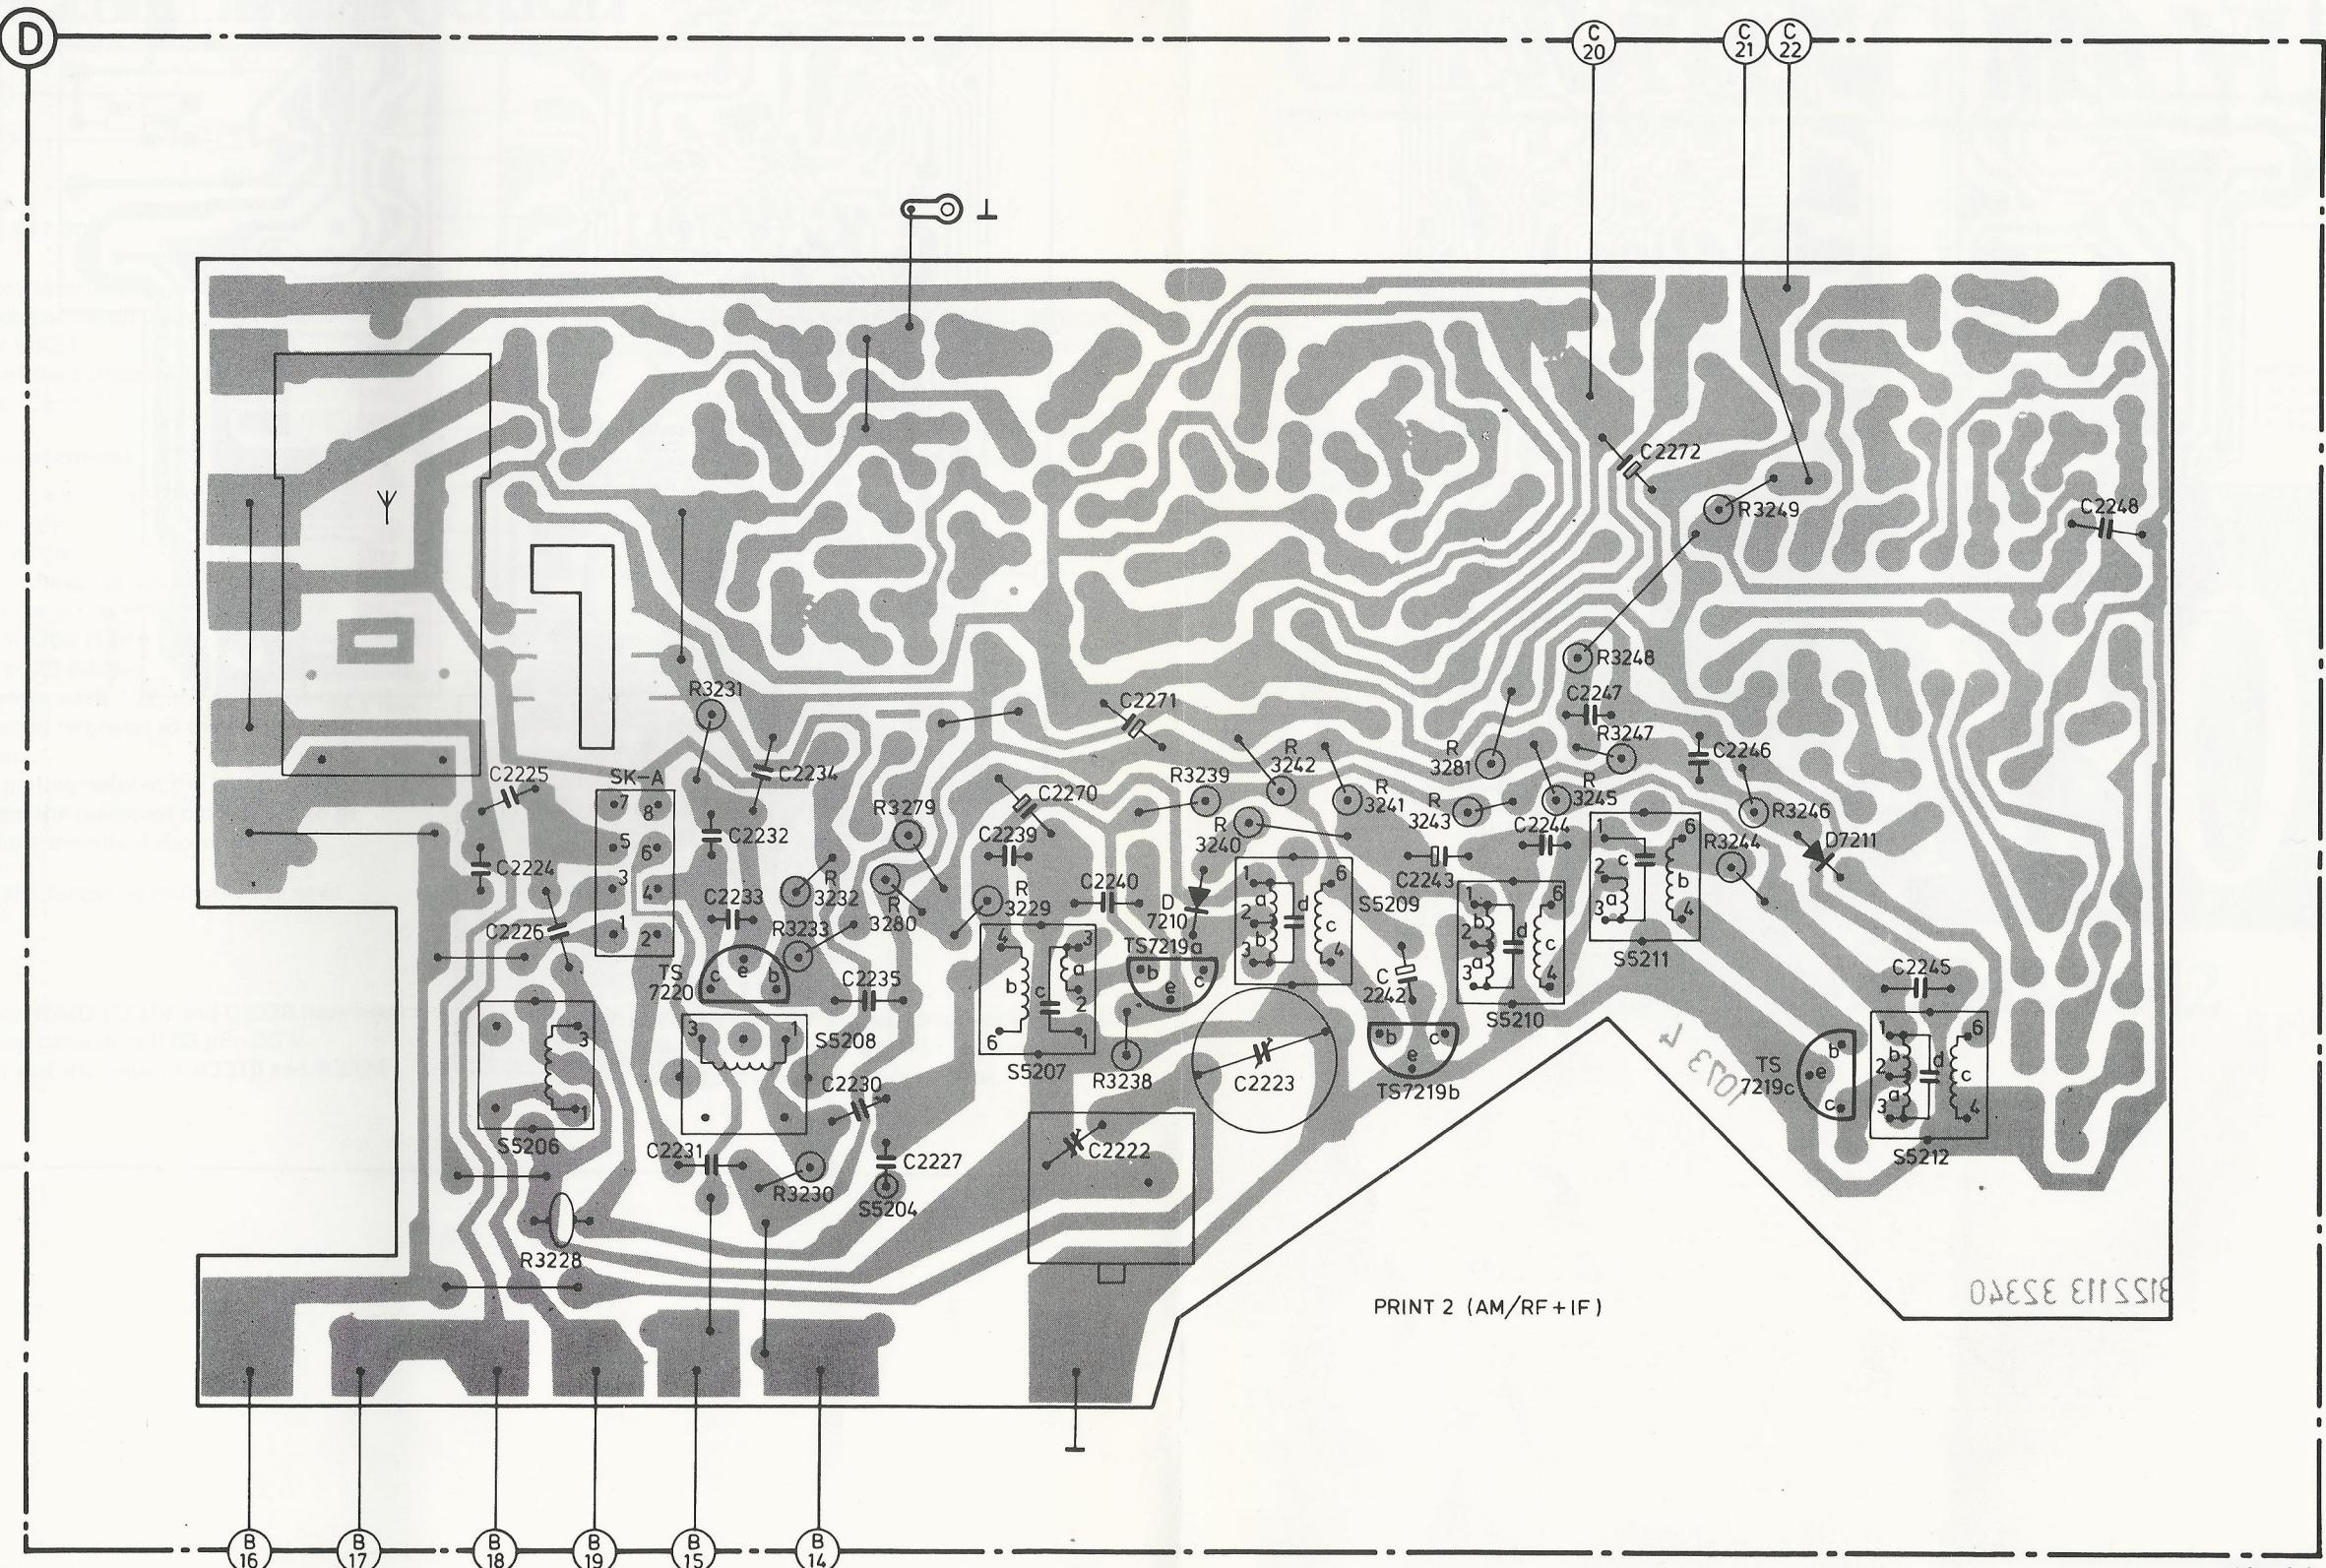

Fig. 3
*Reason:* Adaptation of sensitivity. See Fig. 3.